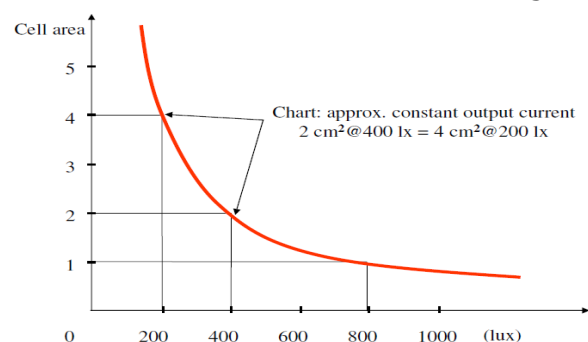

Fig. 6
As a rough, conservative estimation, indoors and for small area amorphous solar panels (a few cm^2) an operating current in the range $10 \mu\text{A}/\text{cm}^2$ @200 lx (FL) can be considered. This value can be roughly linearly extrapolated using a de-rating factor for lower illumination and/or smaller area. That corresponds e.g. to $4.5 \mu\text{A}/\text{cm}^2$ @100 lx. Another extrapolation approach (area x brightness) is shown in Fig. 6. Additionally, amorphous cells deliver indoors nominal power densities of around $4 \mu\text{W}/\text{cm}^2$ @200 lx or $< 2 \mu\text{W}/\text{cm}^2$ @100 lx (i.e. about $4.5 \mu\text{A} \times 0.35 \text{ V}$).